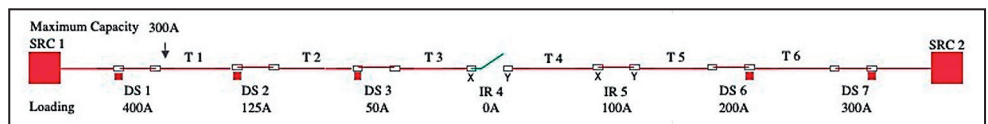

Figure 6. Reducing the maximum capacity for source SRC1.
- Artificially reduce the capacity of a circuit to act as an alternate source during an event by setting the **Maximum Capacity** setting of any switch on that circuit in the team record for the team downstream from that circuit source. See Figure 6.